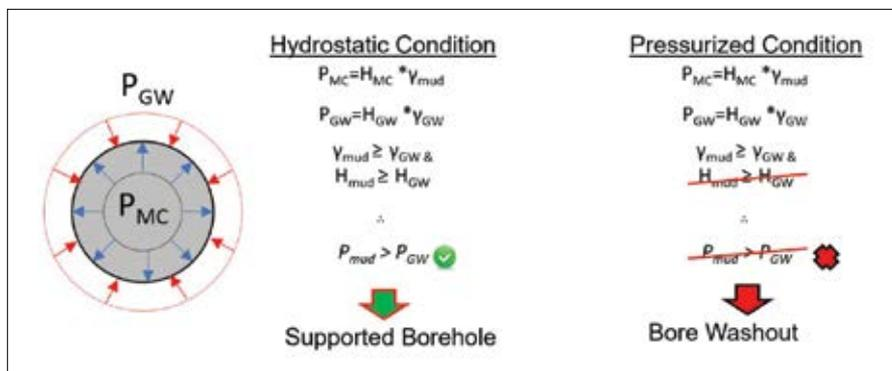

Figure 3. Borehole pressure balance
A typical HDD installation beneath a river or wetland encounters conditions similar to the pressure balance model shown in Figure 3 of a Supported Borehole. The properties of HDD drilling fluid when subjected to flow add internal pressure during the pumping process thus improves stability. However, the dominant driver of borehole stability is pressure differential between internal and external forces.
There are two sets of general circumstances where the pressure balance shown on the right (Bore Washout) in Figure 3 above is present and fluid will commonly need to be contained in a soil borehole: 1) slope drill wherein the entry and exit are at different elevations, such as the crest and toe of a slope, and 2) instances when the alignment of the HDD advances through a pressurized aquifer where aquifer pressure is greater than the combined drill fluid pressure and mudcake strength.
- 2) **Bore washout:** steep slopes often contain perched or perennial groundwater. The borehole then can serve as a conduit for water to flow, collapsing the bore and over excavating soil. This situation may not be correctable by any mitigation effort and can result in lowering or loss of the perched water in an aquifer. The alignment can travel through competent, impermeable soils and exit into a granular water bearing soil unit that becomes unstable when subjected to the loss of confinement caused by the excavation process (see Figure 3 – Bore Washout).